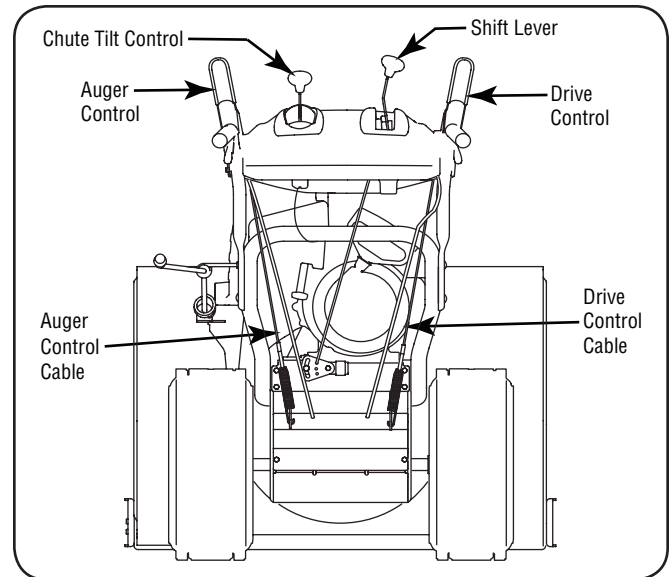

Fig. 3-11
- Look at the lower rear of the snowthrower frame to be sure the spring (found at the end of each cable) is attached to its respective actuator bracket. (Refer to Figures 3-11 and 3-12.)
- With the drive control released (see Figure 3-11), push the snow thrower forward, then pull it back. The machine should move freely.
- When the auger control is released and in the disengaged “up” position (see Figure 3-11), the cable should have very little slack, but should NOT be tight.